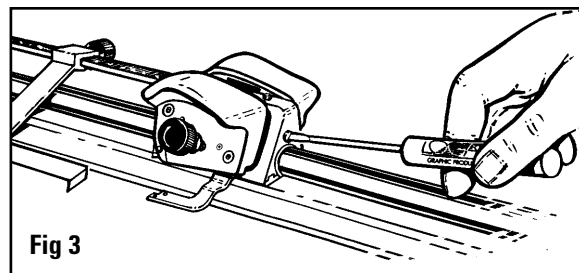

Fig 3
Putting the rounded end in towards the center of the board press each Mat Guide channel into the base board lining up the holes in the channels with the holes in the board. Stand the base board up on its edge and insert the four channel screws from the **underside** of the board and tighten. **Fig 3**
3. Slide the cutting head past the far end of the mat board and rotate the straight cut blade holder down until the lock down pin snaps over the top of the cutting head locking the blade holder into cutting position. **Fig 3**
5. Slide the cutting head into position so that the edge of the metal near the green dot on the indicator plate is directly over the marked line. **Fig 3**
5. Slide the top edge of the movable stop up to the increment on the scale of the border size you wish to cut. **Fig 3**
If over or under cuts appears at the **BOTTOM** of the cut when using the production stops even after a blade depth adjustment, use the Logan screwdriver provided to make slight adjustments on the overcut adjustment screw on the back of the cutting head. This screw will fine tune the **BOTTOM** over/under cut only when using the production stop. **Fig. 3**